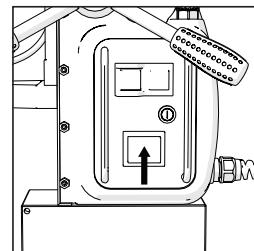

FIG. 4a
- Operate the red rocker switch on the machine's switch panel to energise the magnet. (**Fig. 4a**)